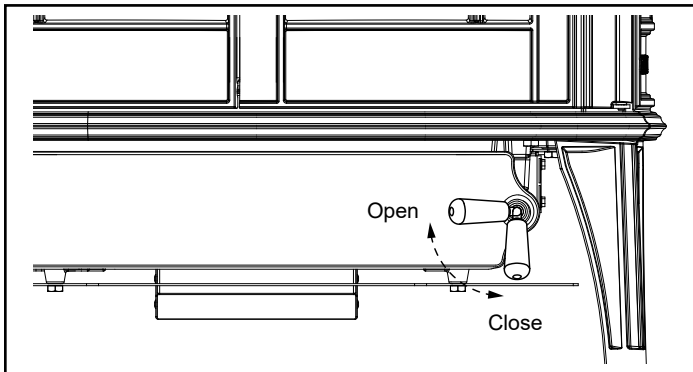

Figure 2.9- Turn the ashdoor handle clockwise to open and counterclockwise to close.
- Close the griddle or doors, and unlatch the ash door, Figure 2.9. It will pivot, swinging the ash pan out of the stove.